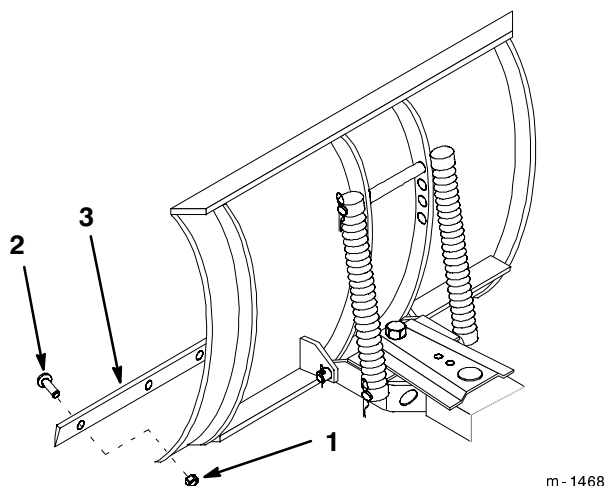

Figure 17
3. Remove the locknuts and carriage bolts securing the scraper (Fig. 17).
4. Reverse the scraper blade to replace a worn edge and install it with the previously removed hardware (Fig. 17).